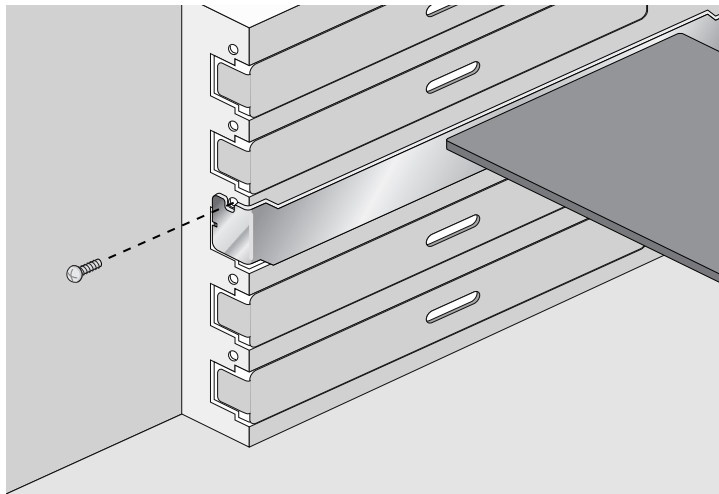

Figure 14. Securing the Adapter Card
6. Secure the network adapter card to the chassis with a Phillips-head screw (not provided) as shown in Figure 14.